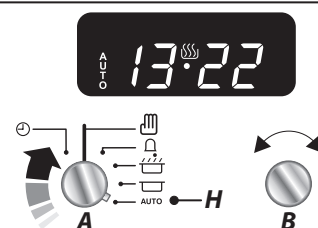

Fig. 4.7
3. Turn the **Timer (A)** knob to the **Auto (H)** setting. The display will show the current time, the cooking symbol and the word 'AUTO' (**Fig. 4.7**).